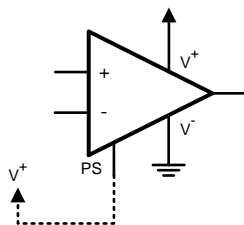
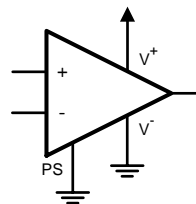

Figure 3. Low Power Mode
Figure 4. Full Power Mode
The LMV422 is a dual rail-to-rail output amplifier that can be switched between two active power modes. The power select pin (PS) provides a method to optimize the power consumption, bandwidth and short circuit current. When the PS pin is set to greater than 4.5V (Figure 3) or left open, the LMV422 is in Low Power Mode operating at a bandwidth of 27 kHz and is consuming only 2 μA of supply current per channel. Setting the PS pin to less than 0.5V, switches the LMV422 to Full Power Mode with a bandwidth of 8 MHz and supply current of 400 μA per channel (Figure 4). The PS pin should not exceed the supply voltage. The active power modes of the two amplifiers can be set independently.